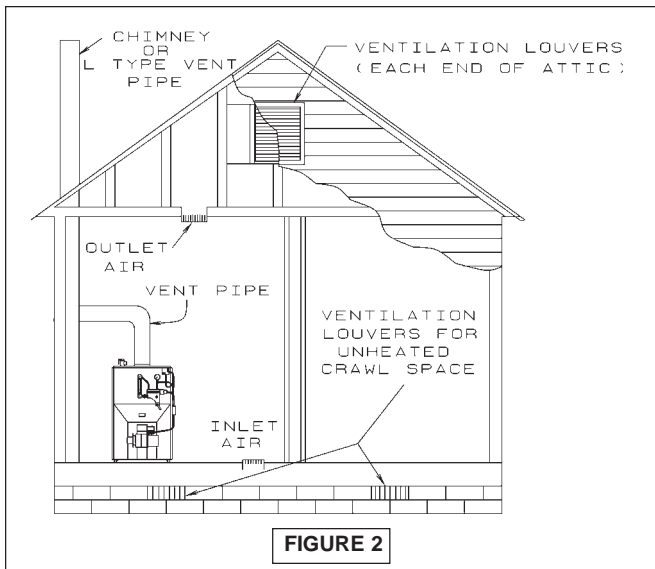

FIGURE 2
A. When directly communicating with the outdoors, each opening shall have a minimum free area of 1 square inch per 4,000 BTU per hour of total input rating of all equipment in the enclosure. (Figure 2)